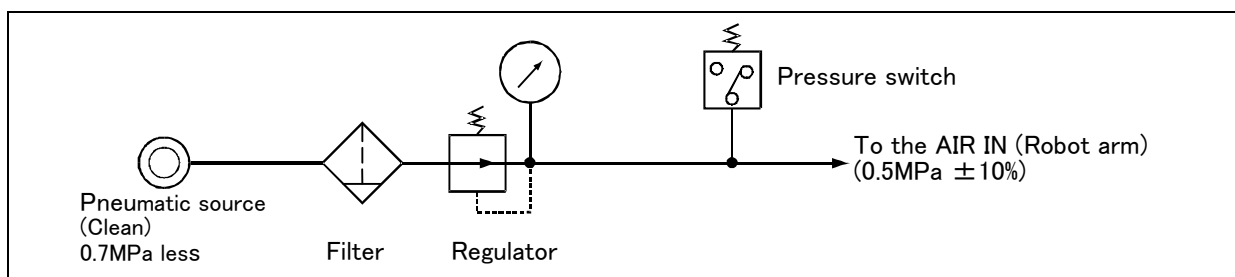

Fig.2-28 : Air supply circuit example for the hand
- (1) Make sure that a surge voltage protection circuit such as a diode is connected to the solenoid coil in parallel.
- (2) When the factory pneumatic pressure drops, as a result of the hand clamp strength weakening, there can be damage to the work. To prevent it, install a pressure switch to the source of the air as shown in Fig. 2-28 and use the circuit described so that the robot stops when pressure drops. Use a hand with a spring-pressure clamp, or a mechanical lock-type hand, that can be used in cases where the pressure switch becomes damaged.
- (3) The optional hand and solenoid valve are of an oilless type. If they are used, don't use any lubricator.
- (4) Supply clean air to the vacuum generation valve when you use clean type robot.
- (5) If the air supply temperature (primary piping) used for the tool etc. is lower than ambient air temperature, the dew condensation may occur on the coupling or the hose surface.